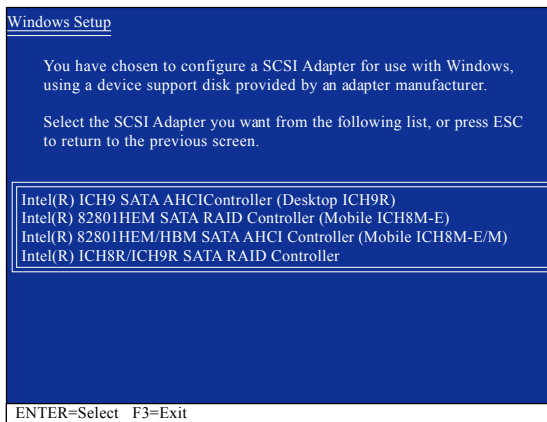

Figure 3
When Setup correctly recognizes the Intel ICH9R SATA RAID/AHCI driver in the floppy disk, a controller menu similar to Figure 3 below will appear. Use the arrow keys to select one of the items displayed and press <Enter>. If you set the **SATA RAID/AHCI Mode** item in BIOS Setup to RAID mode, select **Intel(R) ICH8R/ICH9R SATA RAID Controller**. (Select **Intel(R) ICH9 SATA AHCIController (Desktop ICH9R)** for AHCI mode.)